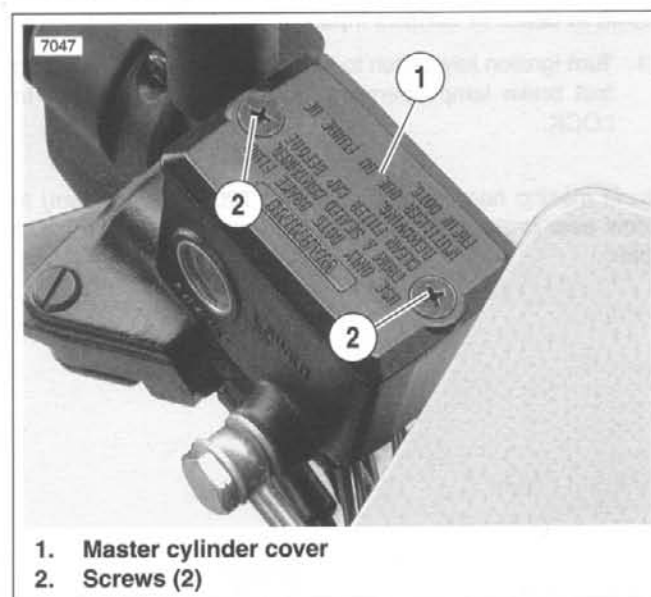

Figure 2-39. Master Cylinder Cover
4. Connect brake line (1) to caliper using two **new** gaskets (3) and banjo bolt (2) (metric). Tighten to 16-20 ft-lbs (21.7-27.1 Nm).
5. See Figure 2-39. Remove both master cylinder cover screws (2). Remove master cylinder cover (1) and gasket.